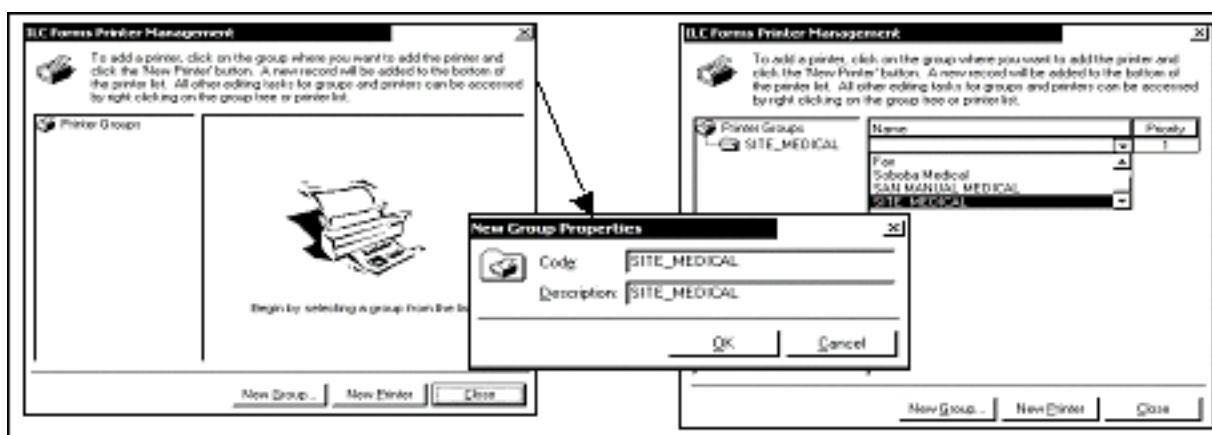

Figure 6-28: Configuring the Print Service
1. Click the New Group button. The New Group Properties window will appear (Figure 6-28).